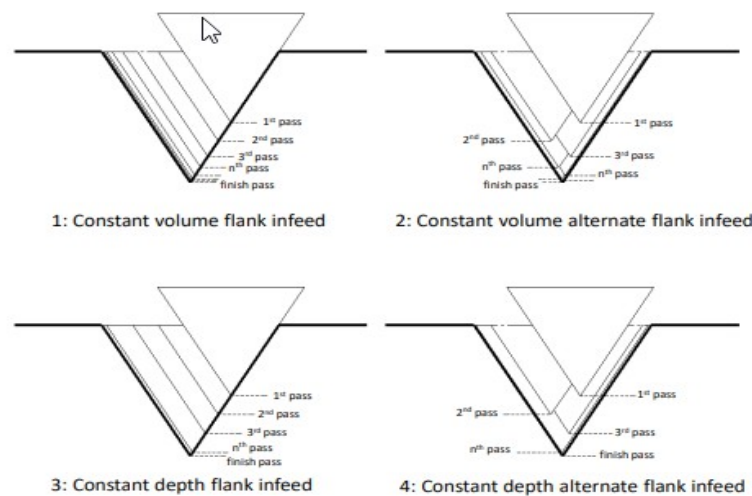

Figure 76-1: Threading infeed types
- P: Infeed type. There are 4 possible infeed selections, 1 to 4. The 4 options are combinations of two infeed types and two depth of cut types. The two infeed types are flank and alternate flank, see figure 76-1. In the flank infeed mode each depth of cut moves down at the angle for the thread, following the trailing flank of the tool. Alternate flank changes from leading to trailing flank for each pass. The two depth of cut types are constant volume and constant depth. In constant volume the depth of cut will get smaller (down to the minimum specified by Q) for each pass to maintain a constant volume of
See Figure 76-1 for a diagram of the infeed types.